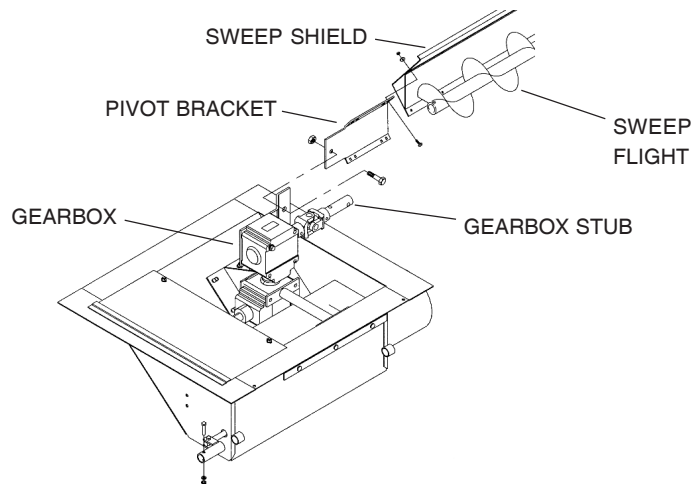

FIG. 20
12. Attach the sweep shields and flight to the center well gearbox (See Fig. 20).
- A. Attach the sweep shield pivot bracket to the bracket mounted on the gearbox using one (1) 5/8 x 1 1/2" bolt and nylon locknut (the pivot bracket will mount to the outside of the gearbox bracket).
- C. Bolt the sweep shield to the pivot bracket using four (4) 3/8" x 1 1/4" carriage bolts, flat washers and nylon locknuts (the bolts will pass through from the auger side).Bolt the sweep flight to the gearbox stub using two (2) 7/16" x 2 1/2" bolts and nylon locknuts for the 6" Power Sweeps, or 1/2" x 3" bolts and nylon locknuts for the 8" Power Sweeps.